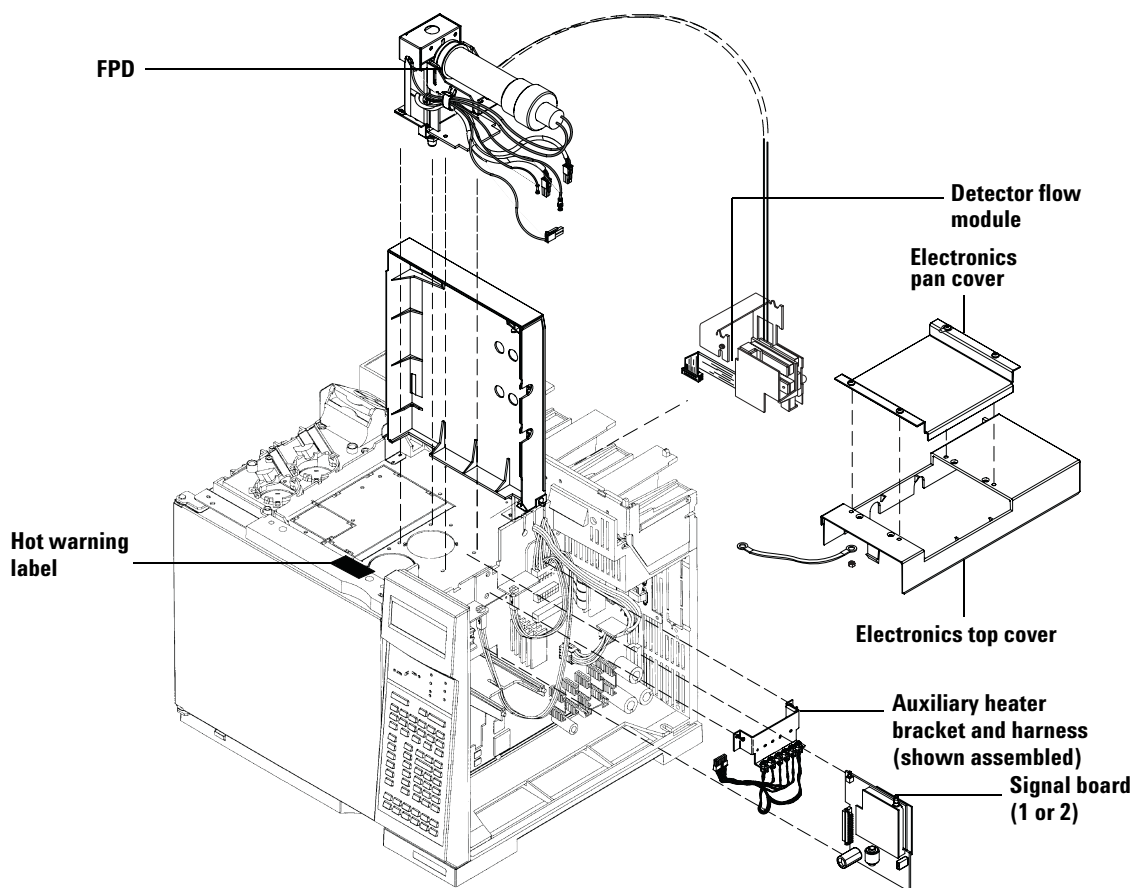

Figure 2 A typical single-wavelength installation
Figure 2 shows the parts for a single-wavelength FPD mounted in the back location. For the front location, the flow module goes in the slot to the right (when facing the back of the GC) of the one shown and the detector and board are moved to the front location and slot.
- 3 Install the hot warning label above the oven door. See Figure 2 on page 15. Align it with the left edge of the large hole and the back edge of the blue bar.